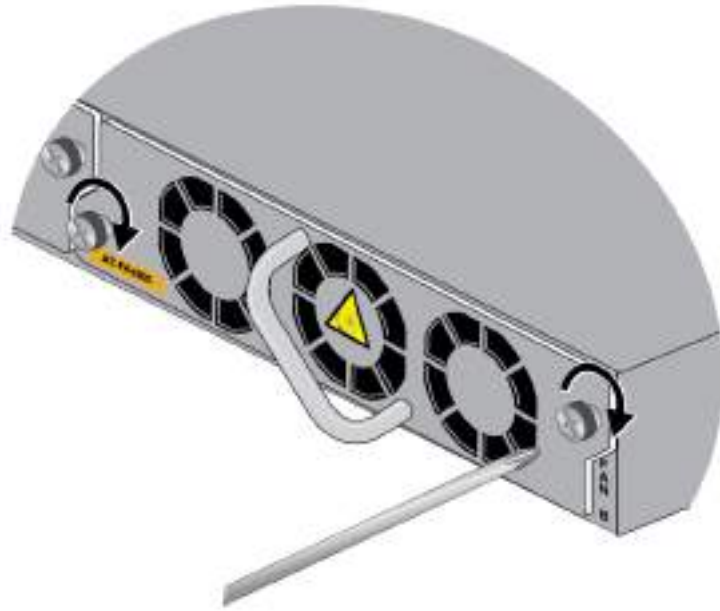

Figure 144. Tightening the Two Captive Screws on the FAN05 Module
4. Tighten the two screws on the module to secure it to the switch. Refer to Figure 144.